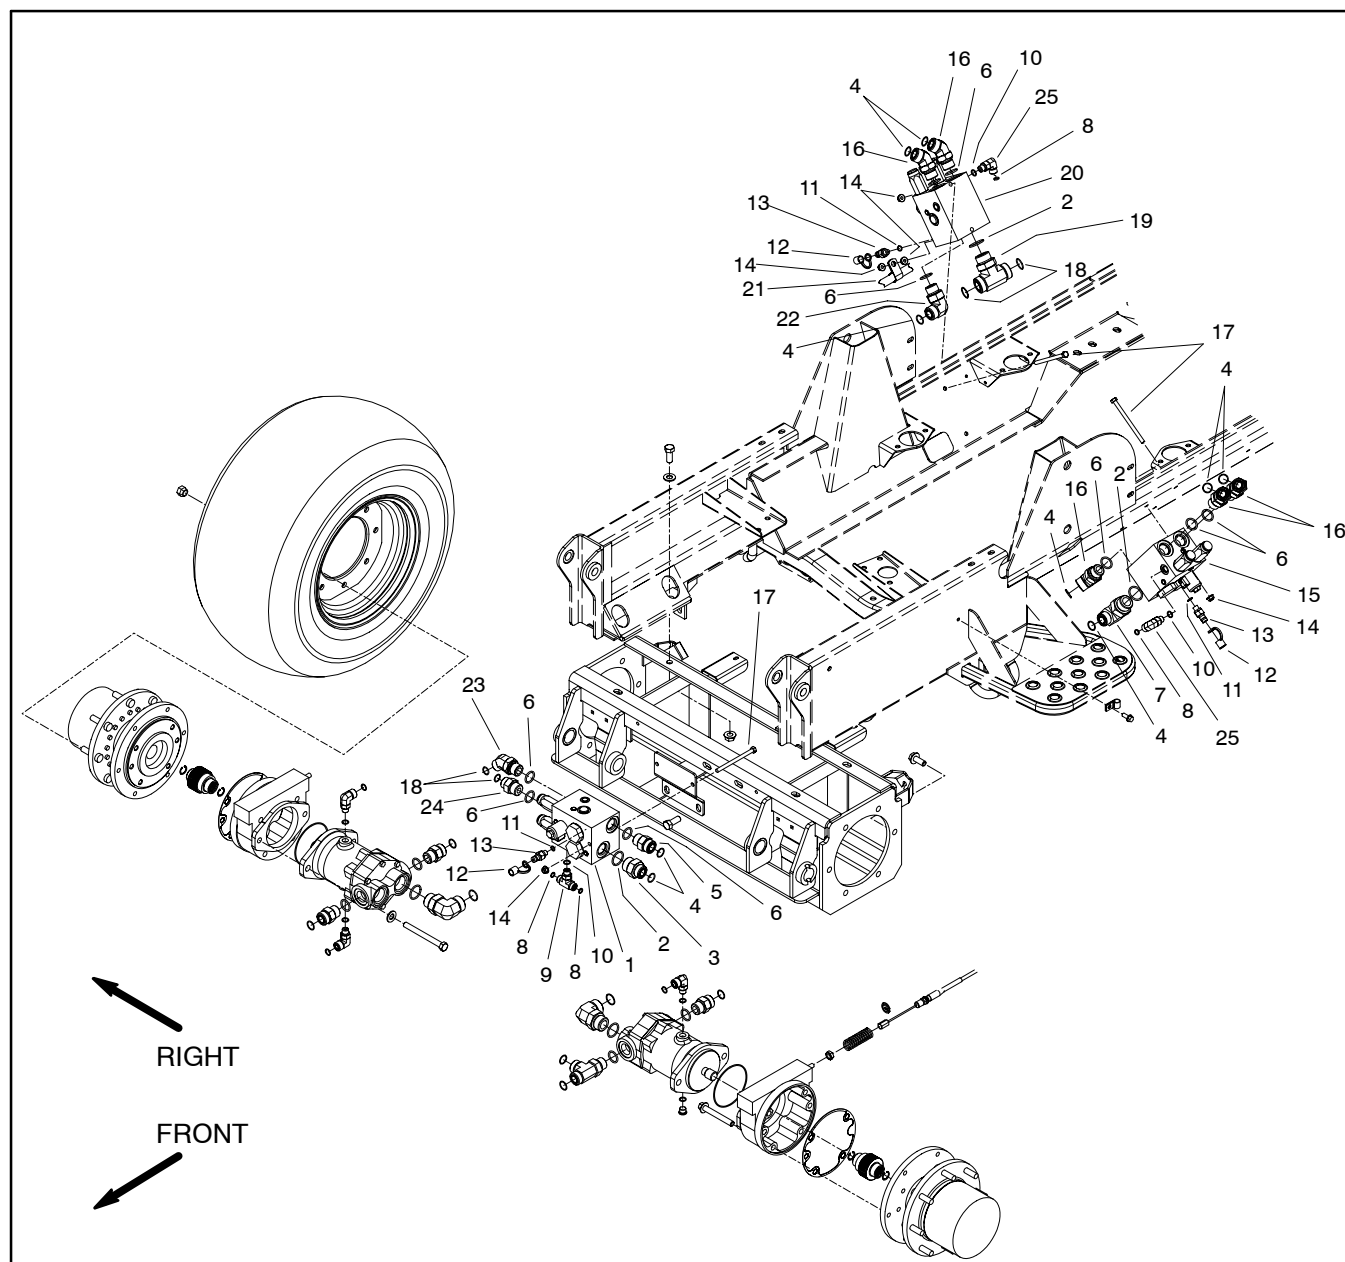

Figure 56
5. Remove hydraulic manifold from the frame using Figure 56 as guide.
1. Install hydraulic manifold to the frame using Figure 56 as guide.